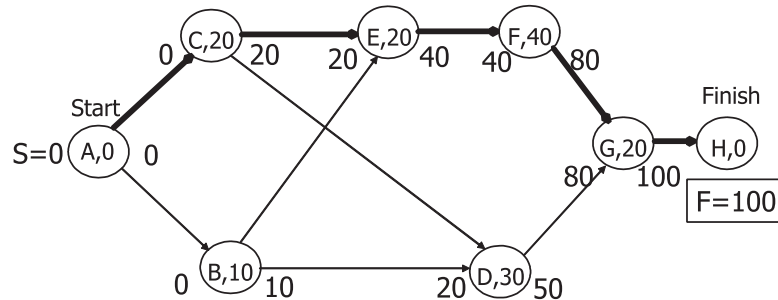

Fig. 9.6. Simple example: Critical Path algorithm to determine Early Start (ES) and Early Finish (EF) times of project tasks
The earliest Finish Time of the entire project (F) is the EF of the last task, the 'End' or 'Finish' dummy task. The workings of the algorithm are shown in Fig. 9.6. We will eventually switch to a more compact task representation using rectangular boxes as shown earlier in Fig. 9.2 (middle).